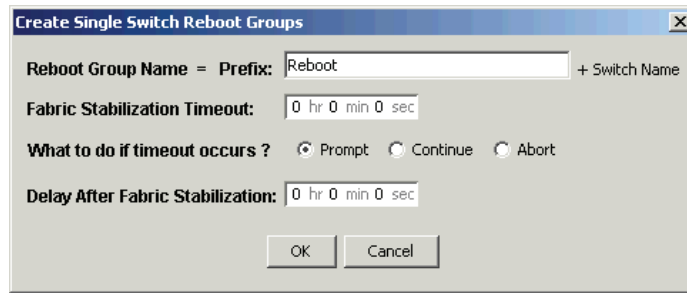

Figure 14-13 Create Single Switch Reboot Groups
4. Click the **Create Single Switch Groups** button. The Create Single Switch Reboot Groups dialog displays, as shown in Figure 14-13.